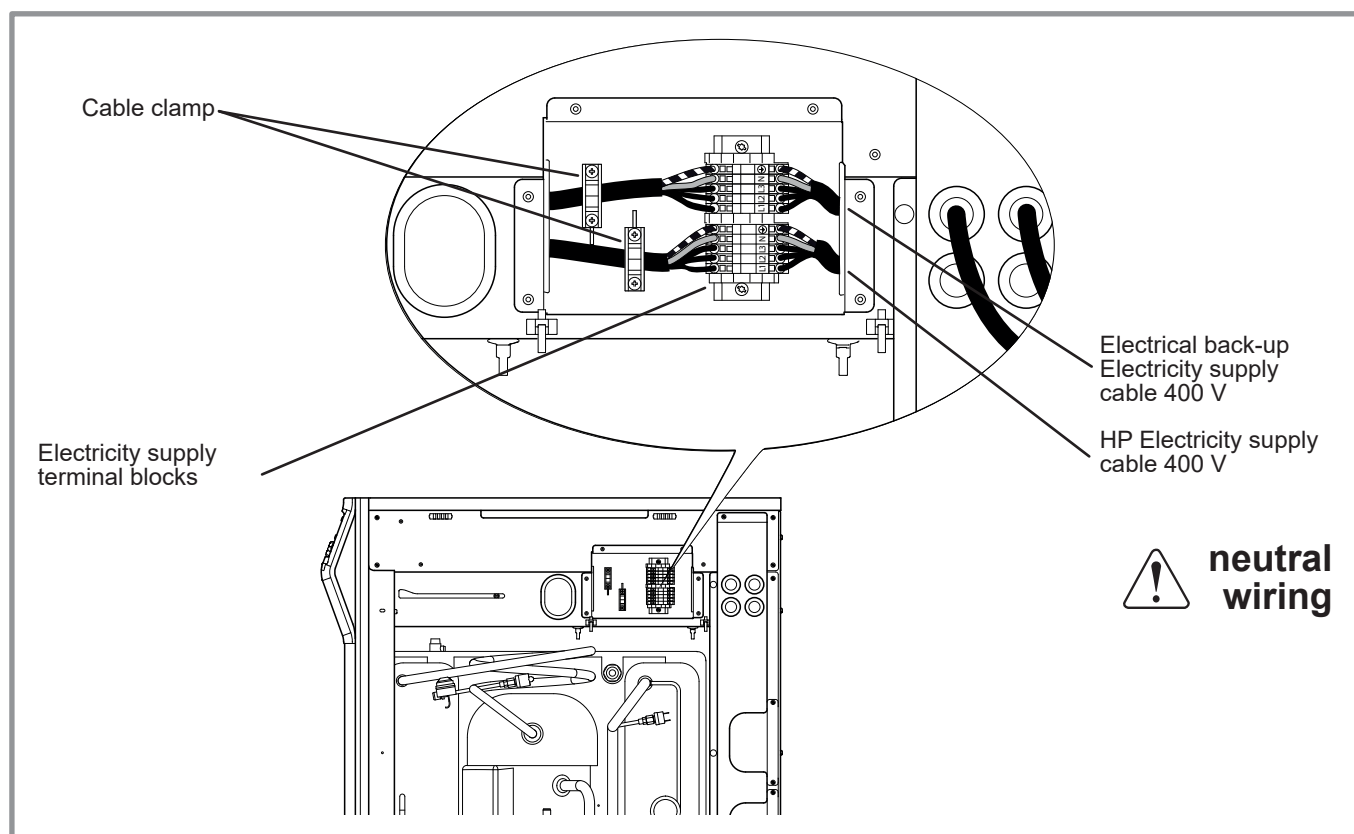

figure 17 - Connection to supply terminal block (Right side view)
- Make the connections in accordance with the diagram figure 17, page 21.